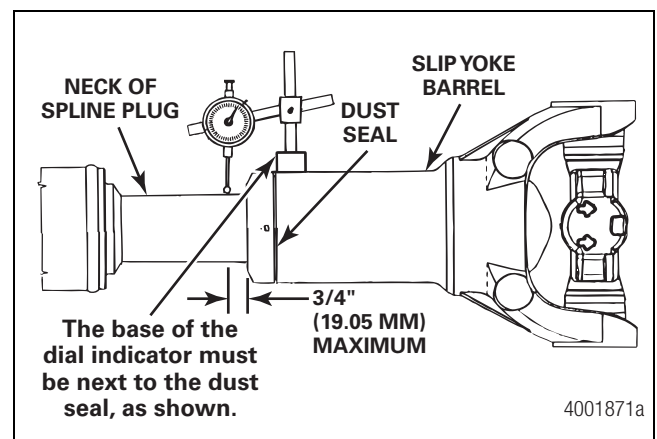

Figure 12.6
2. Firmly mount a dial indicator with a magnetic base onto the slip yoke barrel next to the dust seal. Figure 12.6. You don't want the dial indicator to move when you check the slip yoke for looseness, or the measurement will not be correct.
3. Extend the dial indicator arm from the base, so that it contacts the neck of the spline plug within 3/4-inch (19.05 mm) from the dust seal. Figure 12.6.